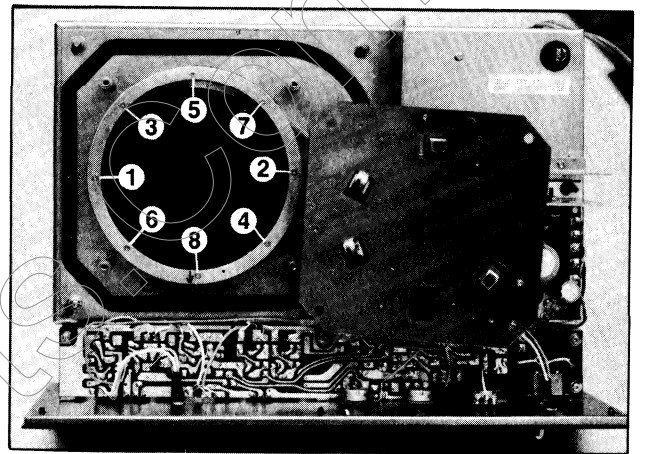

Figure 4
- b) Carefully lift plate assembly and lay it over on its side (Fig. 4). *Make certain that the wires attached to assembly are not strained at anytime!*
- c) Remove eight (8) screws (shown in Fig. 4), from flywheel. When recording disc is removed wipe flywheel surface with dust-free cloth.
- c) Install all screws by following sequence shown in Fig. 4. Allow screws to "touch" metal edge of disc. Repeat the sequence several times, evenly stretching disc over surface of flywheel (similar to installing drum-head on drum or tire wheel on your auto). Surface must be free of "bumps" or "warps" for proper operation.